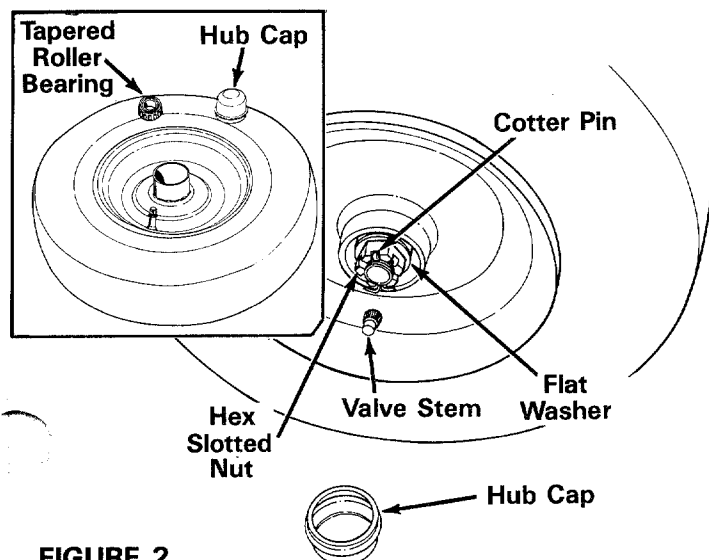

FIGURE 2
Attach the wheels to the reservoir tank as follows. See figure 2.
1. Pry off the hub caps which are attached to the wheels. Remove one tapered roller bearing from inside each wheel. See inset, figure 2.